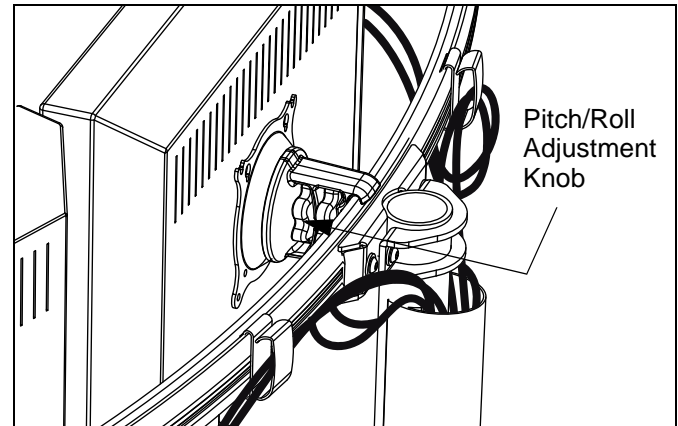

Figure 12: Display Pitch and Roll Adjustment
1. Loosen Centris bracket front adjustment knob. (See Figure 12)